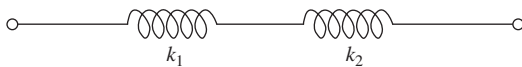

Figure P2.18 Series combination of two springs.
- 2-18.** Two springs connected in series shown in Fig. P2.18 can be represented by a single equivalent spring. The stiffness of the equivalent spring is given by